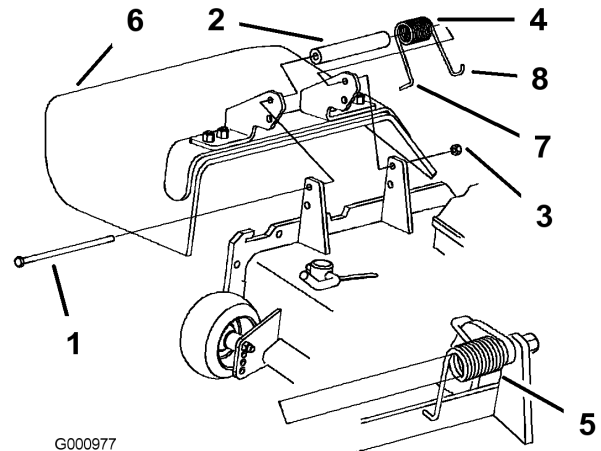

Figure 37
1. Remove the locknut, bolt, spring and spacer holding the deflector to the pivot brackets (Figure 37). Remove damaged or worn grass deflector.
Note: Make sure the L end of spring is installed behind deck edge before installing the bolt as shown in Figure 37.
3. Install bolt and nut. Place J hook end of spring around grass deflector (Figure 37).